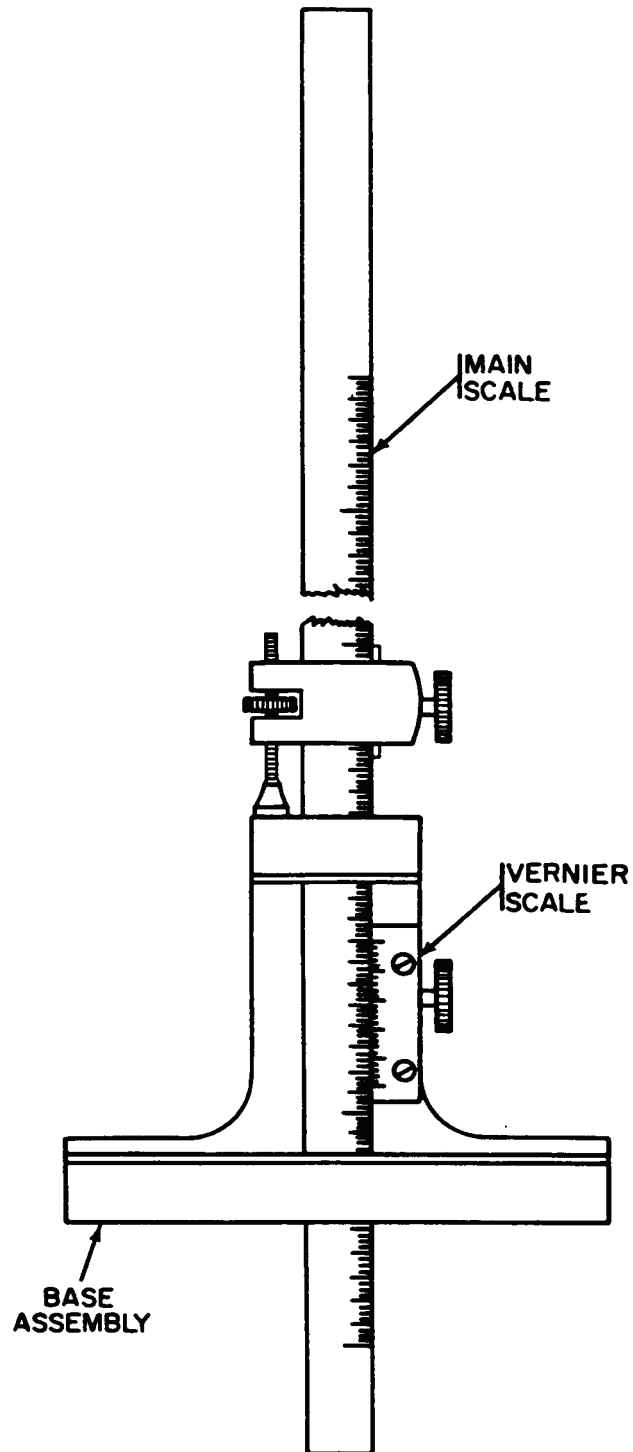

Figure 6. Vernier depth gage.
- (1) Retract measuring end of main scale beyond edge of base. See fig. 6 for location of component parts.
- (2) Set base of TI on triangular base.
- (3) Advance main scale until it makes contact with triangular base. Lock main scale in place.
- (4) The vernier depth gage should indicate zero.